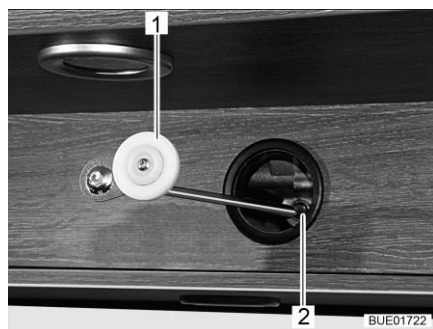

Fig. 142 Mechanical operation, drive
- Insert the crank provided (Fig. 142,1) or an Allen wrench into the accommodation on the motor (Fig. 142,2).